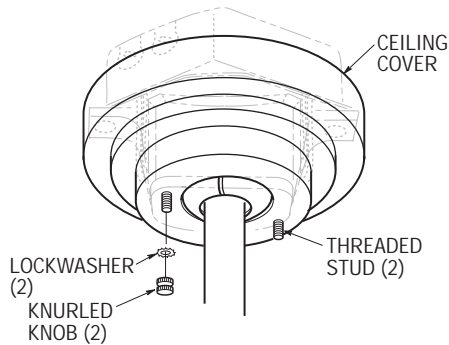

Figure 18
- 5. Lift the ceiling cover up to the threaded studs and turn until the studs protrude through the holes in the ceiling cover (Figure 18).
- 6. Secure the ceiling cover in place by sliding lockwashers (supplied) over the threaded studs and installing the two knurled knobs (supplied). (Figure 18). Tighten the knurled knobs securely until the ceiling cover fits snugly against the ceiling.